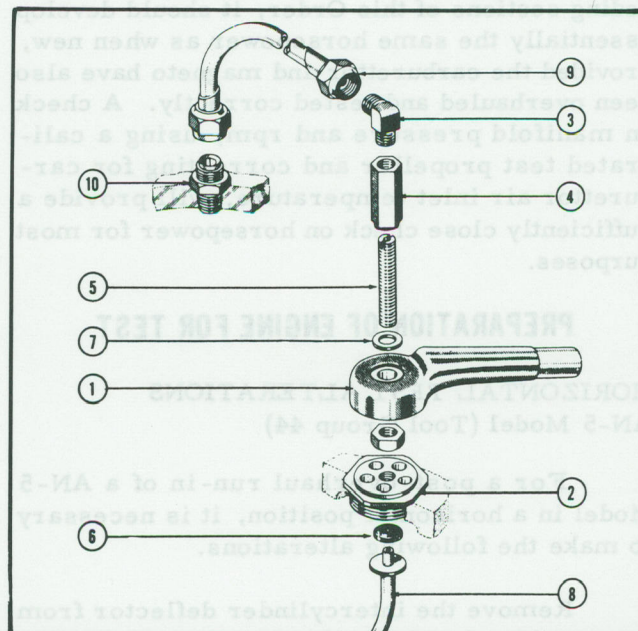

Figure 6-2 Connection Assembly
Install this connection (refer to Figure 6-2), and insert the tube (8) into the breather aperture between the No. 2 and No. 3 intake pipe bosses in the supercharger case. Direct the end of the tube into an oil drain hole located 20 degrees off-centre at the rear of the impeller shaft boss in the supercharger case. Line up the additional oil drain holes in the impeller shaft bearing cage liner and the impeller shaft bearing cage with the supercharger case oil drain hole to form a direct passage to the impeller shaft rear bearing and impeller shaft oil seal. Install the connection body (2) in the breather hole. From a point directly behind the No. 2 cylinder push the rear ignition manifold forward until the manifold brace rests against the No. 2 cylinder; then screw the hollow transfer screw (5) into the connection body, controlling its extended length with the hex nut. Install the exhaust connection (1) over the hollow transfer screw; then install the fitting (4) on the screw and tighten the fitting. Screw the elbow (3) into the top of the fitting (4). Screw the nipple (10) into the oil pressure take-off on the left side of the rear case and connect the nipple to the elbow (3) by means of the copper tubing with fittings (9).